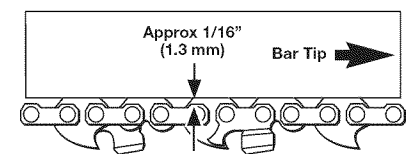

Fig. 33
- **Warm Chain Tensioning** - During normal operation, the temperature of the chain will increase. The drive links of a correctly tensioned warm chain will hang approximately 1/16 inch (1.3 mm) out of the bar groove (Fig. 33).